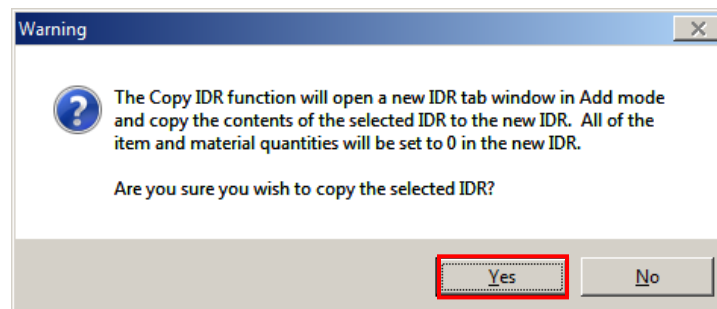

Figure 7-22. Copy IDR Warning Message
2. Click **Yes** to the Warning message (Figure 7-22).